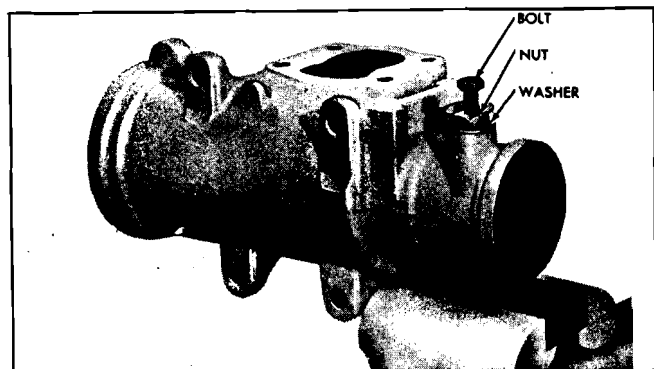

Fig. 9-68 Removing Connector
8. Remove connectors by using threaded bolt into tapped holes with washer and nut as extractor (Fig. 9-68).